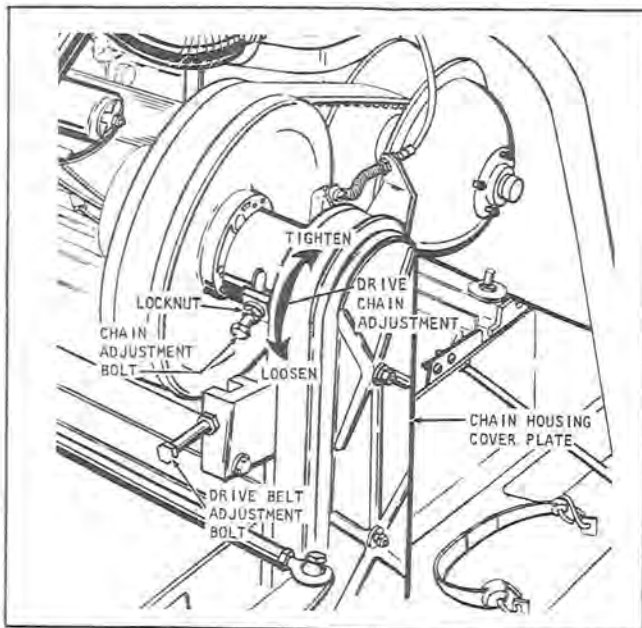

Figure 4
2. Remove chain-housing cover plate (see figure 4).
1. Remove chain-housing cover plate (figure 4).